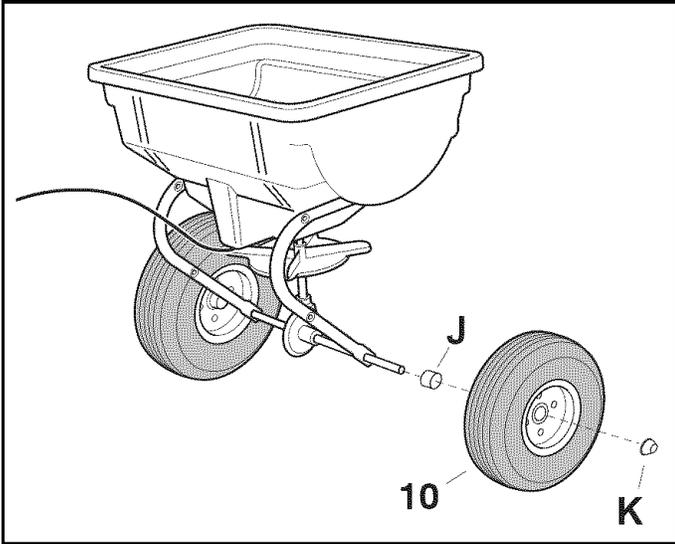

FIGURE 5
- Attach the wheel (10) to the left side of the axle. Secure the wheel in place with a hub cap (K). See figure 5.